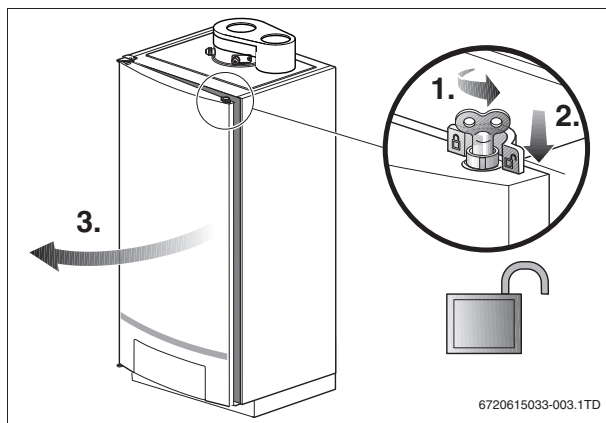

Fig. 2 Opening the boiler door
- ▶ Open the boiler door by turning the vent key through 1/4 rotation anti-clockwise (→ fig. 2).